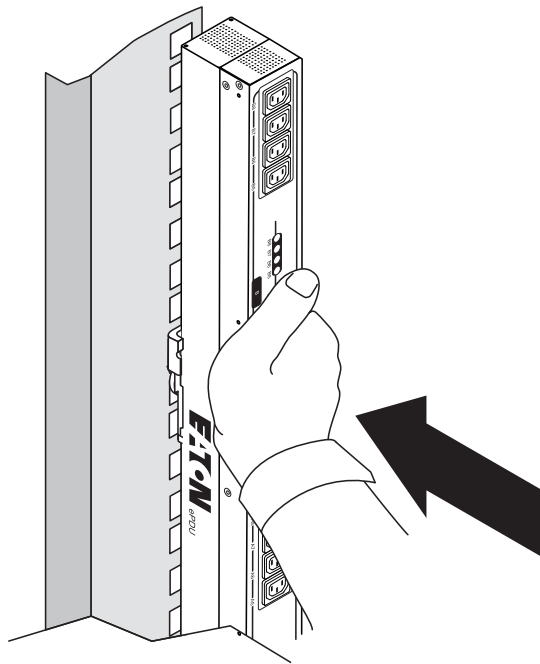

Figure 11. Attaching the ePDU to the Rail
6. Snap the ePDU into the rail, as shown in Figure 11. When you hear a clicking sound for each mounting clip, the ePDU is secure.